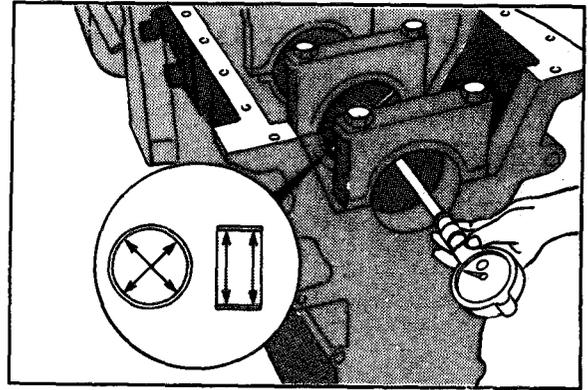

Figure 6-8
14. Install main bearings and measure main bearing bore diameter with bolts tightened to 130 lb-ft torque (176 N•m). Maximum diameter should be 2.2720 in. (57.709 mm) (Figure 6-8).